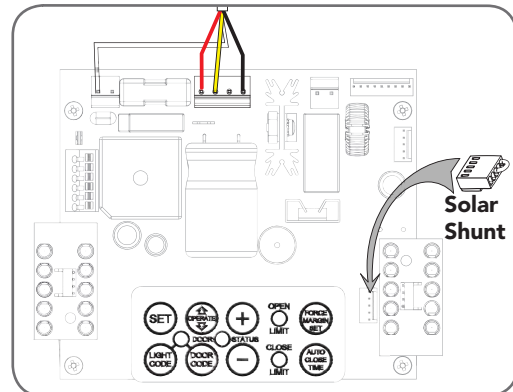

Fig 15
5. Plug the Charger Board's three wire harness (red/yellow/black) into the control board's "SBY-3" connector (Fig. 15).
6. Plug the Charger Board's one wire harness (white) into the control board's "24vac in" connector on (Fig. 15).
7. Plug the solar shunt (supplied) onto the control board's "J13" connector (Fig. 15) only if control board is CB15. Do not use this "Solar Shunt" on to "DCB03" control board. Only use black shunt to Short two pins of JP1 connector marked "SOLAR" on "DCB03" control board .
7. Plug the solar shunt (supplied) onto the control board's "J13" connector (Fig. 15) only if control board is CB15. Do not use this "Solar Shunt" on to "DCB03" control board. Only use black shunt to Short two pins of JP1 connector marked "SOLAR" on "DCB03" control board.